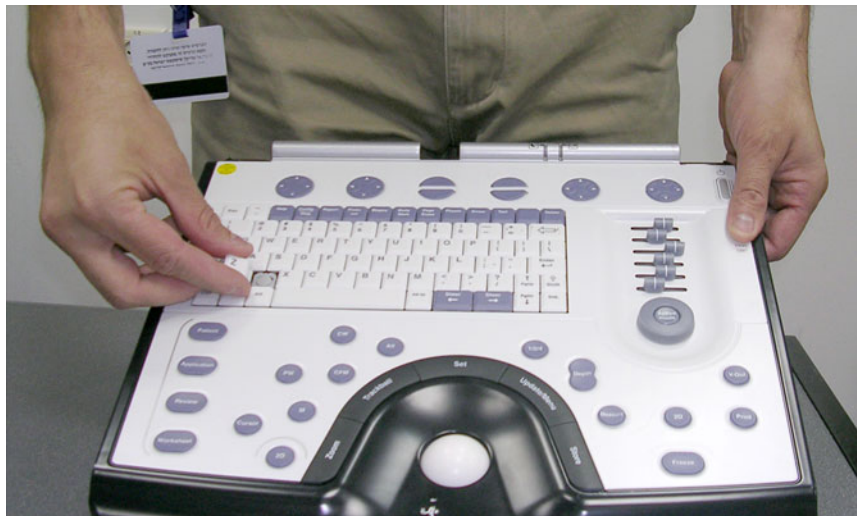

Figure 8-25 Keycap Replacement
- 2) Use the screw driver to gently lever off the defective keycap, until it is completely loosened from its base (see Figure 8-25 below).
- 1) Carefully place a small flat screw driver between the ATGC Rotary knob and the surface of the keyboard - see Figure 8-25 below.